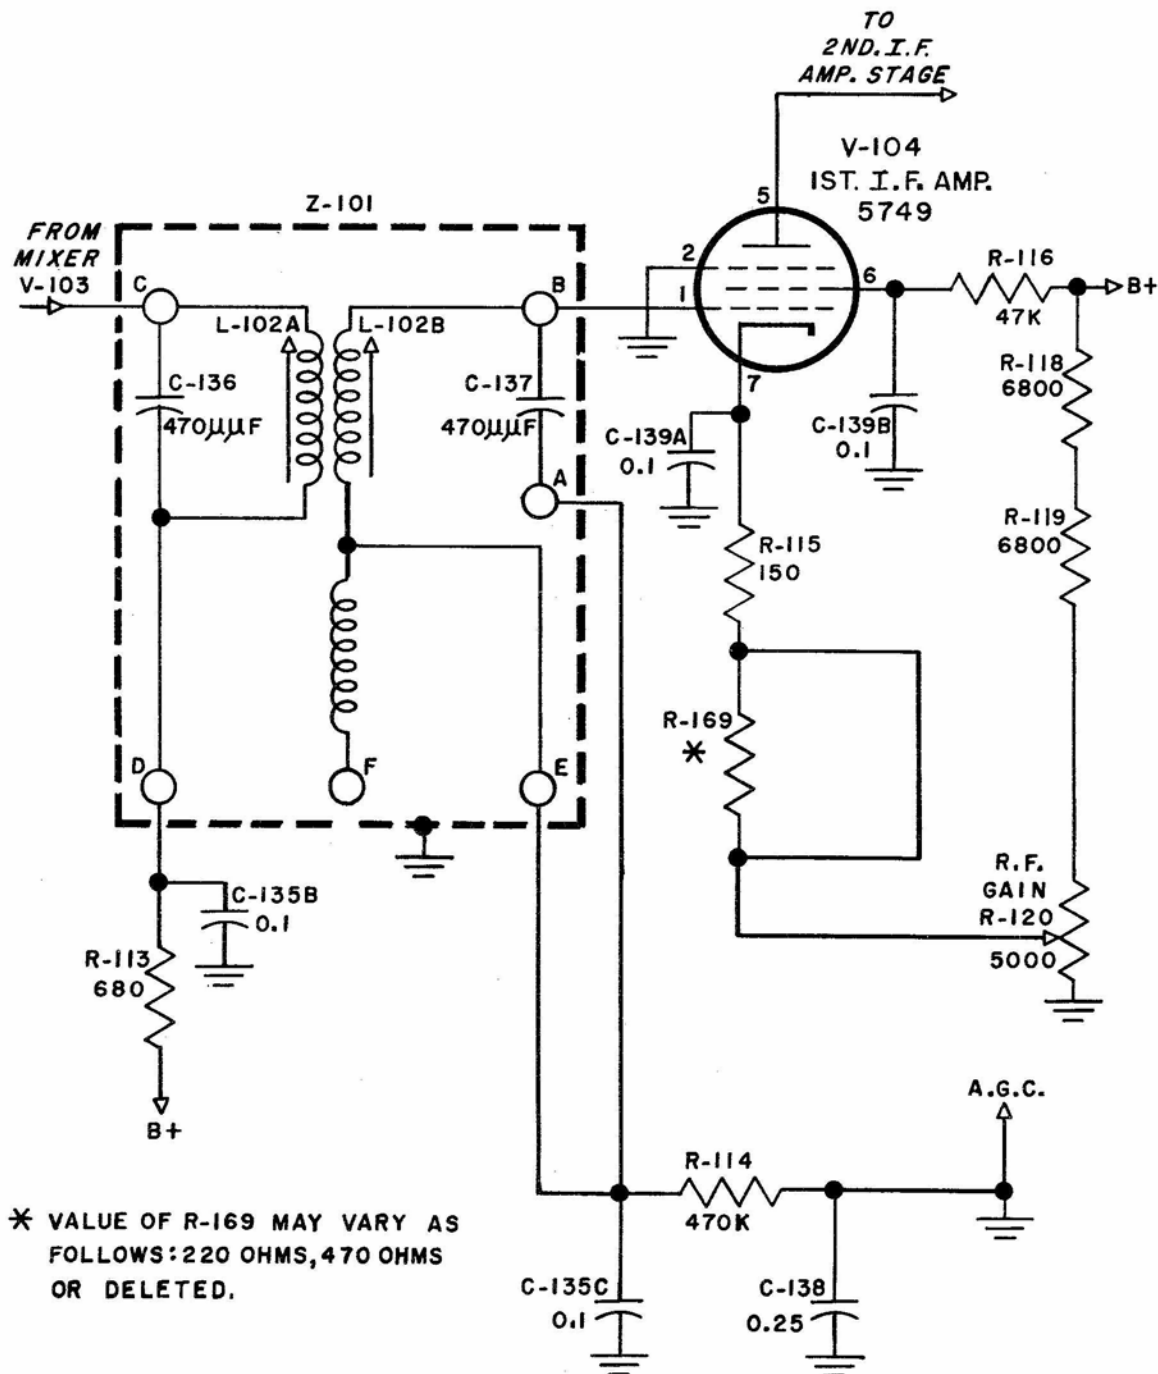

Figure 2-5. First I.F. Amplifier V-104, Simplified Schematic Diagram
e. I.F. AMPLIFIER V-104 CIRCUIT DETAILS.—Figure 2-5 is a simplified schematic diagram of the first I.F. amplifier stage of the receiver. Both I.F. amplifier stages are quite similar and a discussion of one will hold true for the other. Two type 5749 pentodes are used as intermediate frequency amplifiers operating at a frequency of 455 kilocycles $\pm 10\%$. First and second I.F. transformers Z-101 and Z-102, and detector input transformer Z-103 are each made